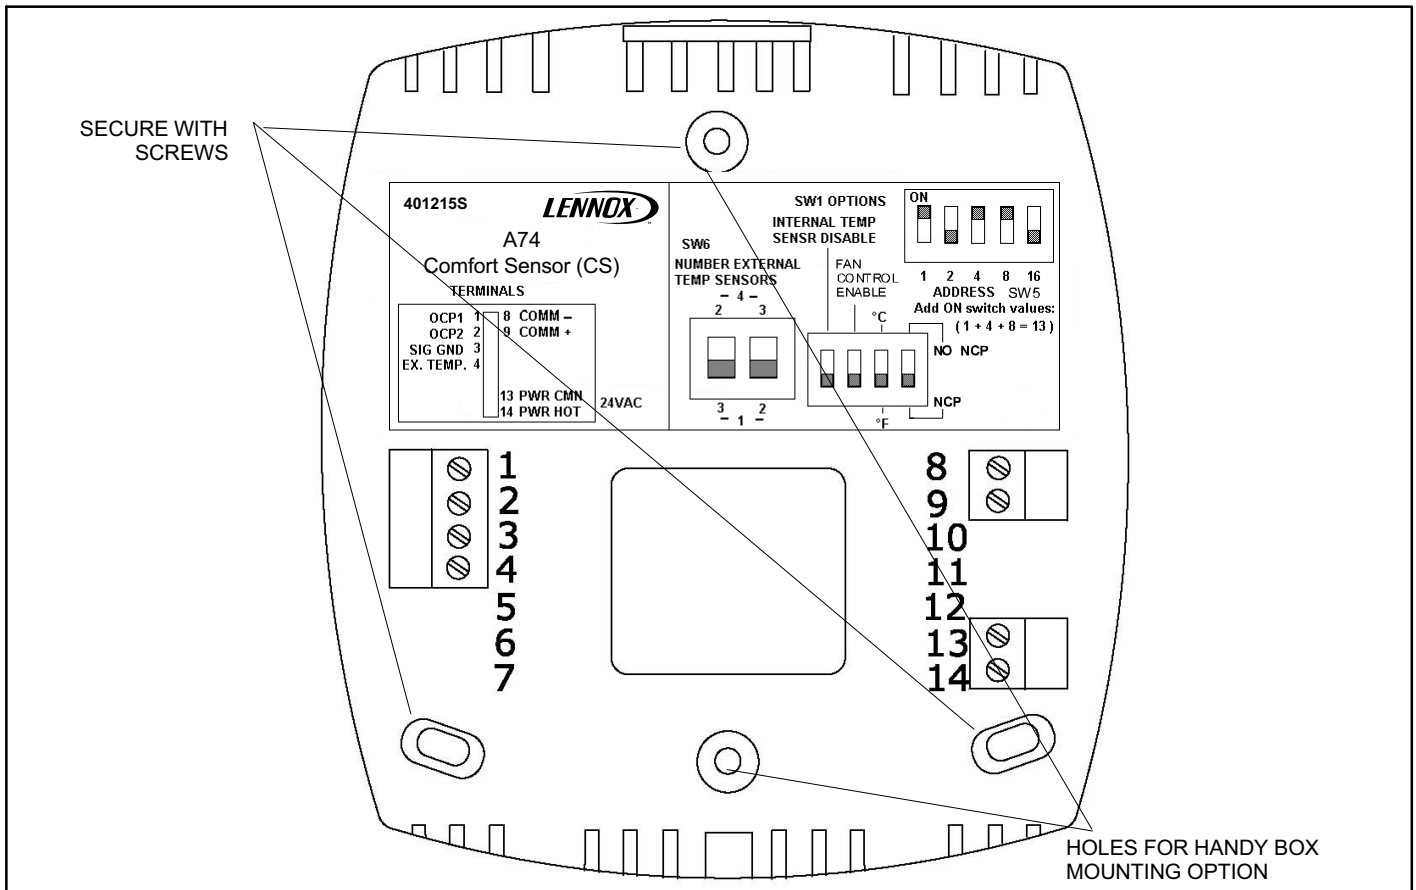

Figure 1. Comfort Sensor (CS)
3. Center the opening in the baseplate over the opening in the wall. Mark and drill three holes for screws (see figure 1).
Wire an optional, isolated, 24VAC input to CS terminals 1 and 2. See figures 1 and 3.